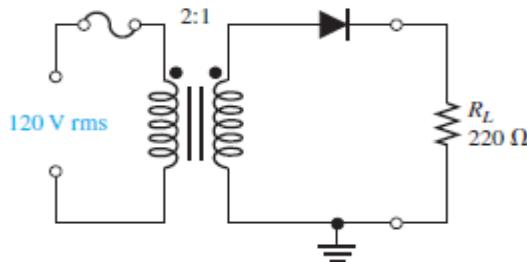

Figure 2–87
- Find the average value of each voltage in Figure 2–88.